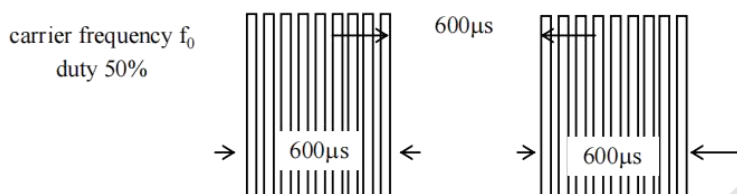

Fig 1. Burst Wave
3)Standard transmitter: burst wave indicated in Fig1.of standard transmitter shall be arranged to 50mVp-p under the measuring circuit specified in Fig2.